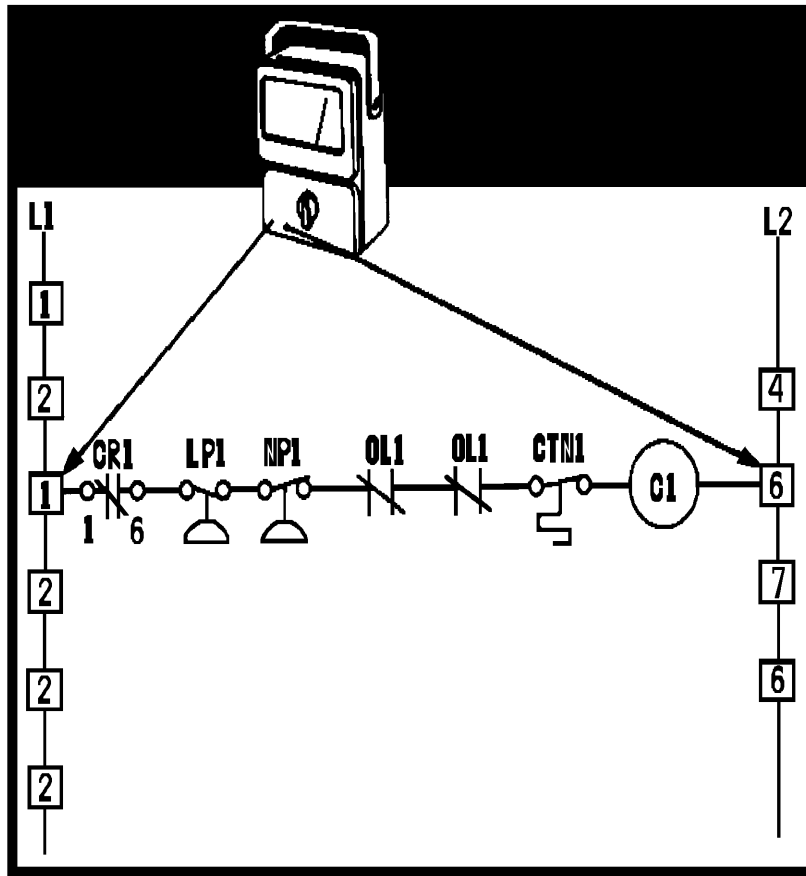

Figure 3, Electrical Troubleshooting.
- j. Demonstrate the electrical trouble shooting technique, (Hopscotch). utilizing figure 3.